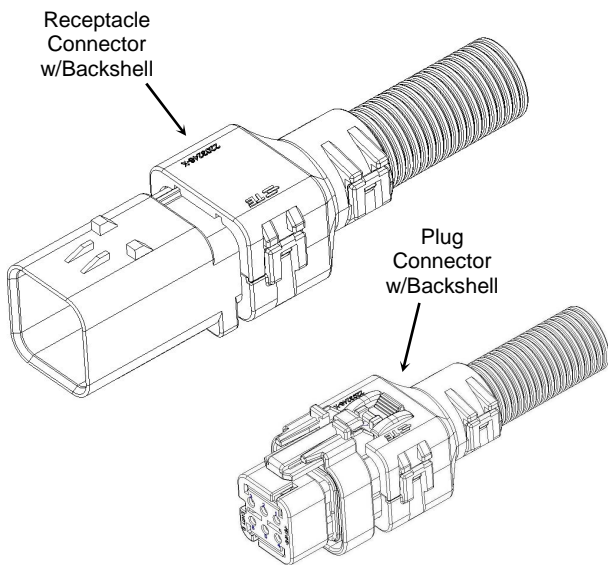

Figure 14
8. The complete AMPSEAL 16 Backshell with connectors is shown in Figure 14.